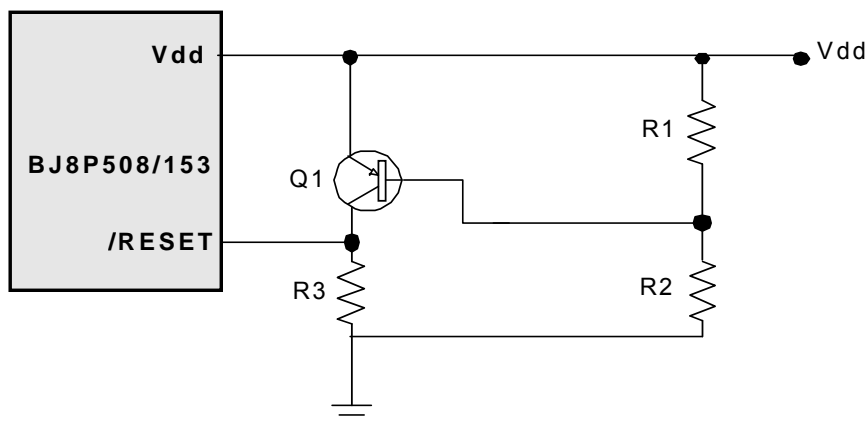

Fig.17 Circuit 2 for the residue voltage protection
The circuit shown in Fig 17 implements an external RC to produce the reset pulse. The pulse width (time constant) should be kept long enough for Vdd to reach minimum operation voltage. This circuit is used when the power supply has slow rise time. Because the current leakage from the /RESET pin is about $\pm 5\mu A$, it is recommended that R should not be great than 40 K. In this way, the voltage in pin /RESET will be held below 0.2V. The diode (D) acts as a short circuit at the moment of power down. The capacitor C, will discharged rapidly and fully. RI, the current-limited resistor, will prevent high current